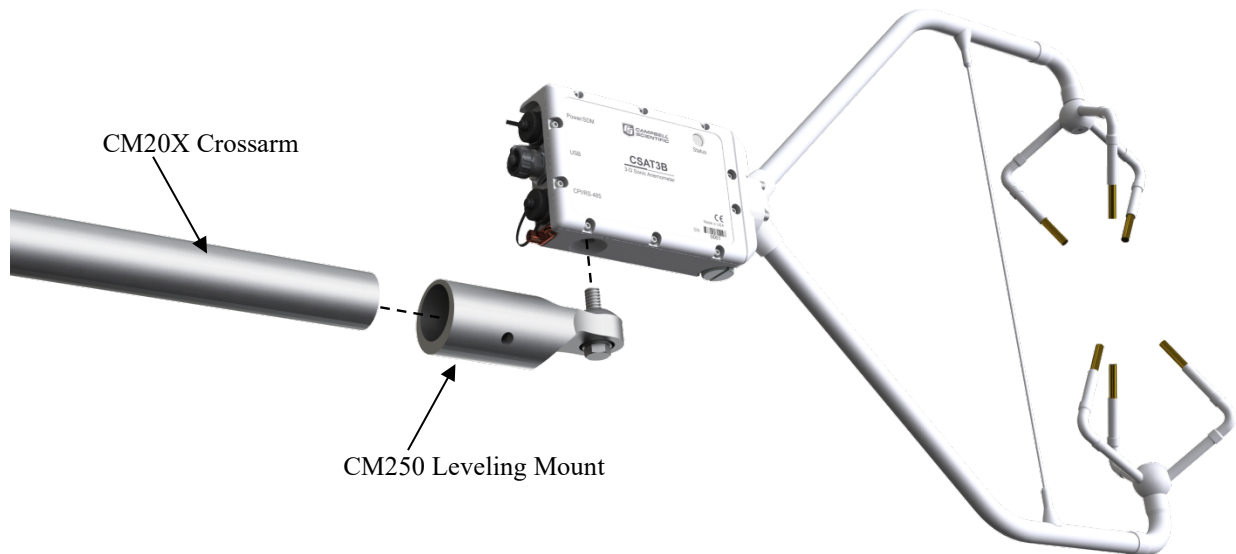

FIGURE 7-6. CSAT3B mounting
3. Attach the CM250 leveling mount (included with the CSAT3B) to the crossarm by tightening the set screws on the boom adapter with a 3/16-in hex socket head wrench. Refer to FIGURE 7-6.
4. Attach the CSAT3B to the leveling mount by inserting the bolt on the mount into the threaded hole on the bottom of the CSAT3B block as shown in FIGURE 7-6.